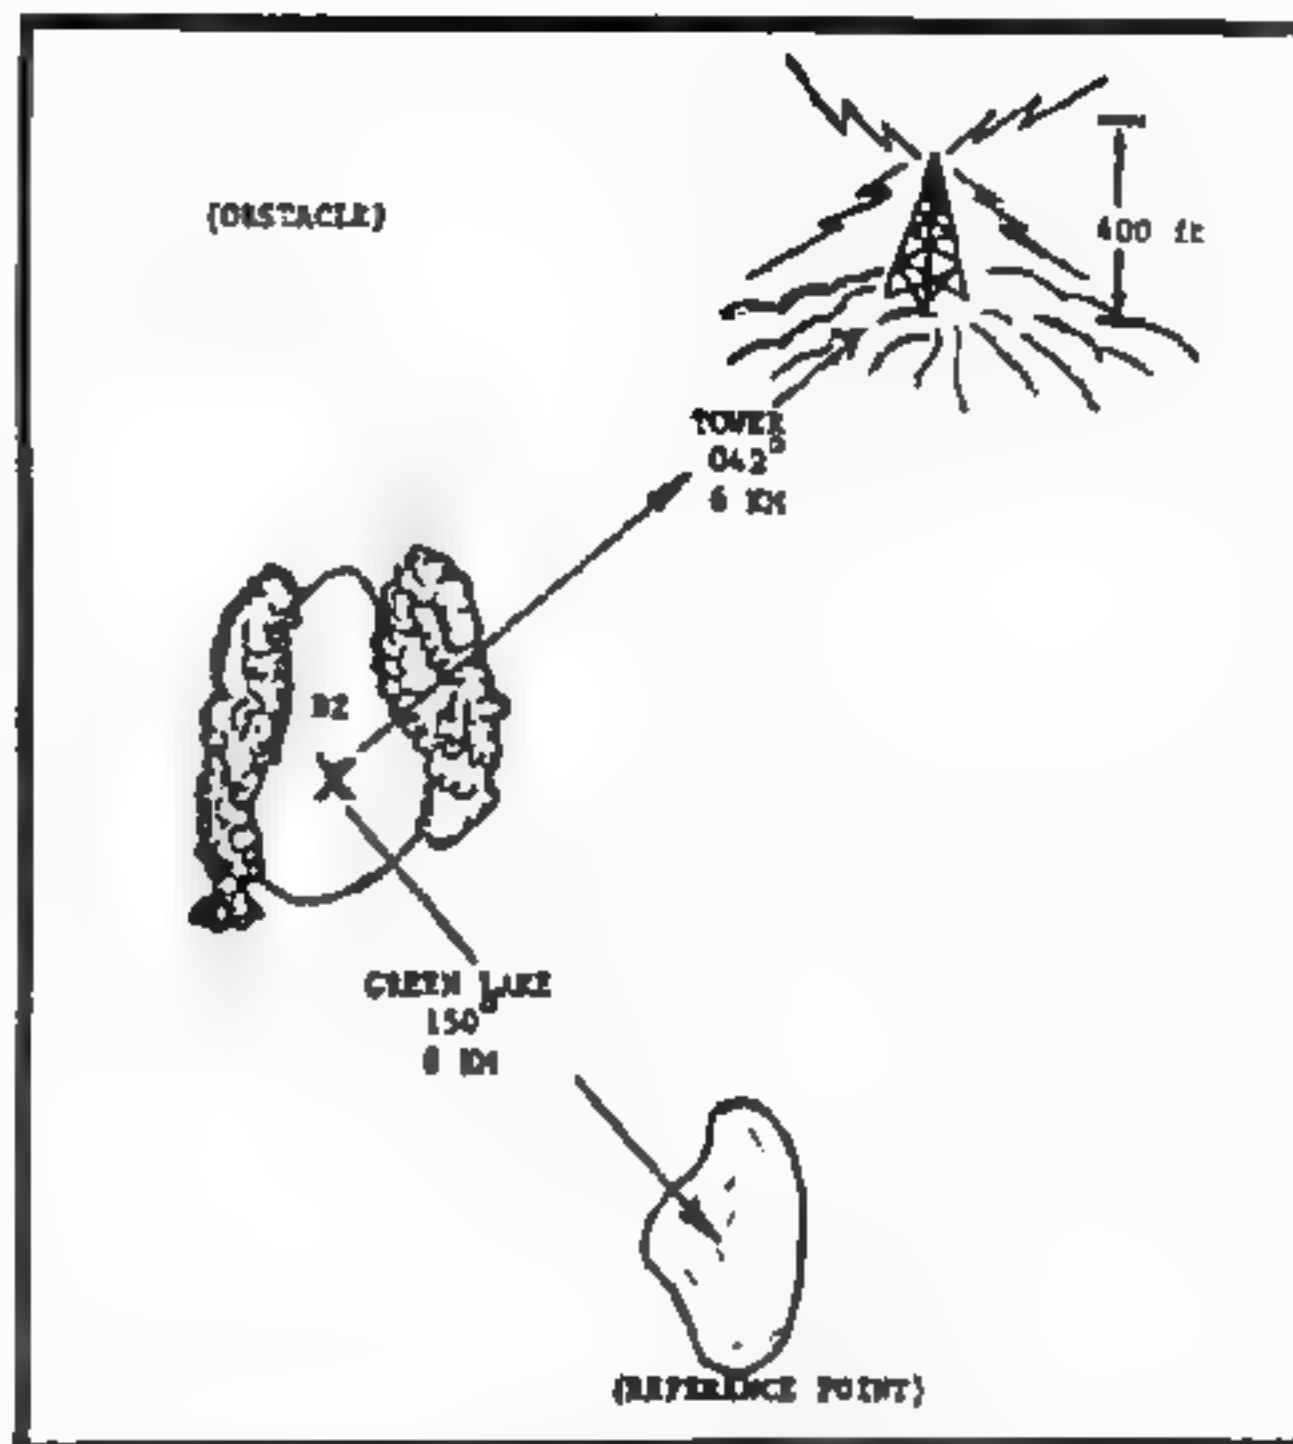

Figure 4. Reporting obstacles and reference points
(5) **Obstacles.** Those that are over 300 feet (90 meters) in elevation above the level of the DZ, within a radius of $\frac{1}{2}$ miles (8 kilometers) and which are not shown on the issued maps. Obstacles are reported by description, magnetic azimuth, and distance from the center of the DZ (Figure 4).
(6) **Reference point.** A landmark shown on the issued maps, reported by name, magnetic azimuth and distance from the center of the DZ (Figure 4). Used with (3) above in plotting the DZ location.